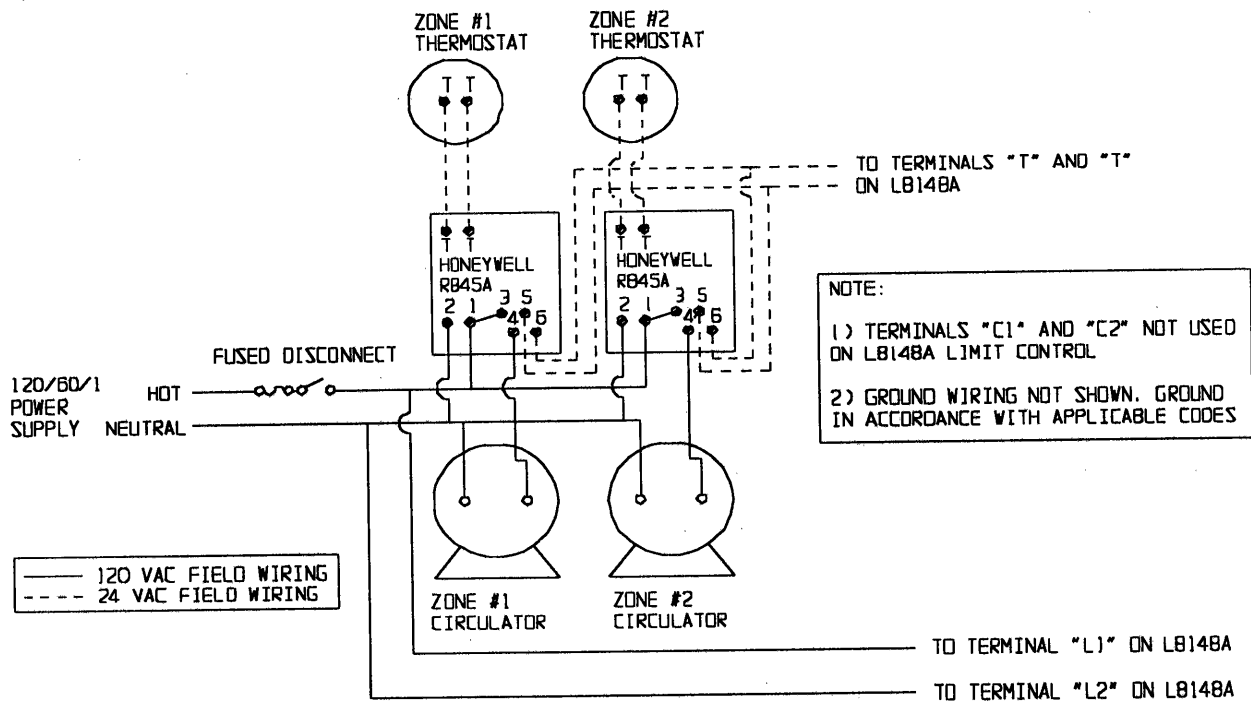

FIGURE 26: WIRING DIAGRAM, ZONE WIRING USING HONEYWELL V8043F ZONE VALVES (FACTORY BOILER WIRING NOT SHOWN - SEE FIGURE 24 OR 25)
- 1) Multiple Circulator Zones - Figure 26 shows wiring for two or more circulator zones using Honeywell R845As. One R845A is required for each circulator zone. Circulator terminals "C1" and "C2" on the L8148A are not used. A DPST Honeywell RA832A may be substituted in place of the R845A using the "X" and "X" terminals in place of the "5" and "6" terminals on a R845A.